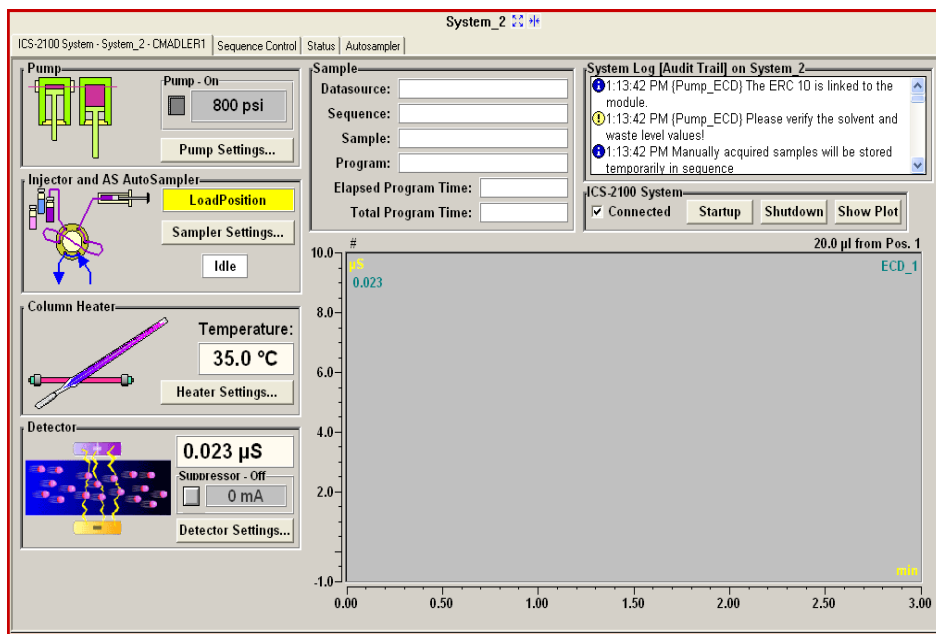

Figure 3-4. ICS-2100 Control Panel on the Chromeleon Panel Tabset
5. To display the ICS-2100 Control panel, click the tab labeled with the ICS-2100 timebase name (see Figure 3-4).
- In the **Eluent Bottle** field in the **Pump Settings** window (accessed from the ICS-2100 Control panel on the Chromeleon panel tabset (see Figure 3-4))
3. Offset the background and zero the reading by clicking the **Autozero** button on the Chromeleon Control panel (see Figure 3-4).
- If the pressure is less than the expected amount, gas may be trapped in the system. To release the gas, remove the pump fitting on the injection valve port, labeled **P (2)**. Allow the air to escape and then reconnect the fitting.